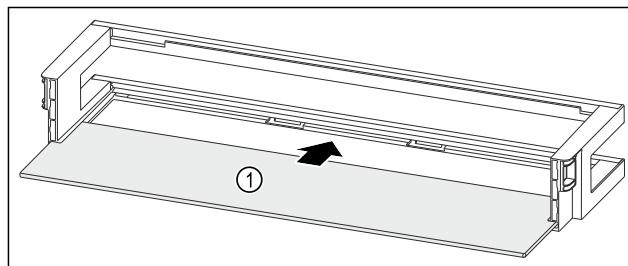

Fig. 112 Door racks with shelf
- ▶ Push the shelf Fig. 112 (1) into the side cutouts.